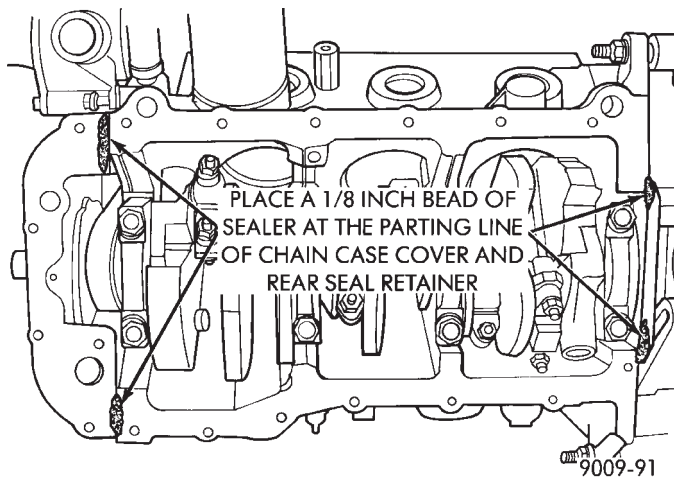

Fig. 3 Oil Pan Sealing
- (2) Apply a 1/8 inch bead of Mopar Silicone Rubber Adhesive Sealant or equivalent, at the parting line of the Chain Case Cover and the Rear Seal Retainer (Fig. 3).